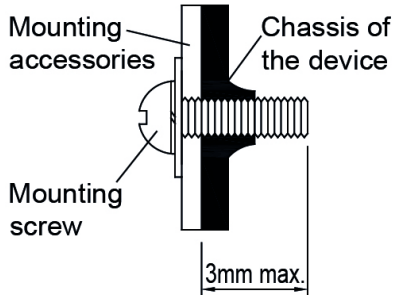

**Fig. 3 Assembly Reference**
- **PM□-5V35W1AA / PM□-5V35W1AG:** Use flexible cable (stranded or solid) of AWG No. 18-12. User should calculate and select the suitable wire specification (type/quantity/diameter) according to actual output current. The torque at the Connector shall not exceed 13Kgf.cm. The insulation stripping length should not exceed 0.275" or 7 mm (Refer to Fig. 3).